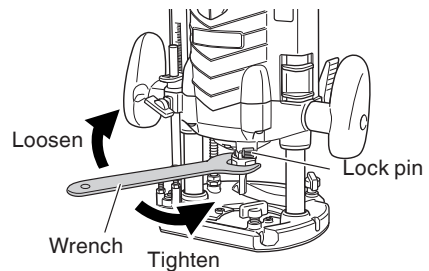

Fig. 3
- (1) Clean and insert shank of bit into the collet chuck until shank bottoms, then back it out approximately 1/16" (approx. 2 mm).
- (2) With the bit inserted and pressing the lock pin holding the armature shaft, use the 23 mm wrench to firmly tighten the collet chuck in a clockwise direction (viewed from under the router). (Fig. 3)